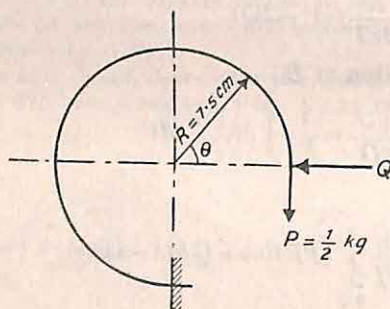

Fig. 45
24. A steel spring is shown in Fig. 45. It is formed in a circular arc subtending an angle of  $270^\circ$  at the centre. The lower end is rigidly fixed and a vertical force of  $\frac{1}{2}$  kg is applied at the free end.
Apply a fictitious load  $Q$  as shown in Fig. 45.